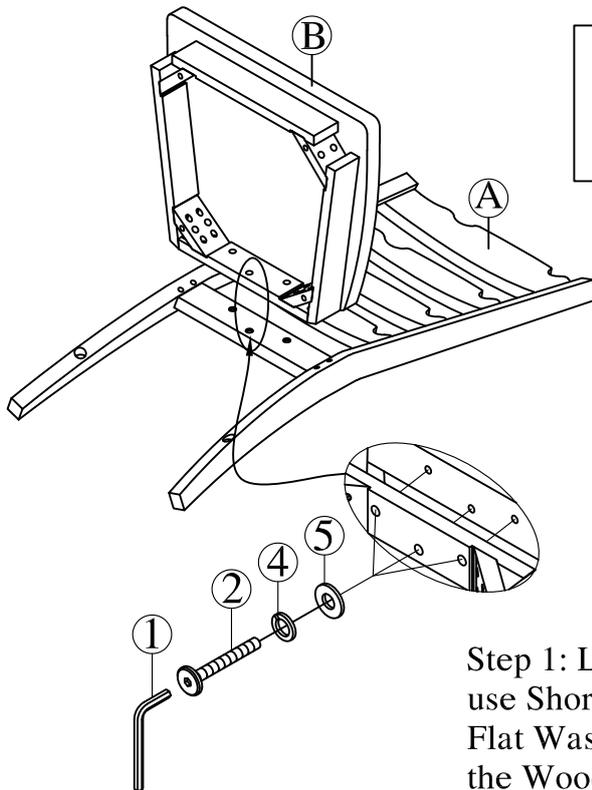

Fig.1
Step 1: Lay the Back Rest (A) on a flat soft surface, use Short Bolt (2), Spring Washer (4), Flat Washer (5) and Allen Key (1) to attached the Wooden Seat (B) to Back Rest (A) as shown in Fig. 1.